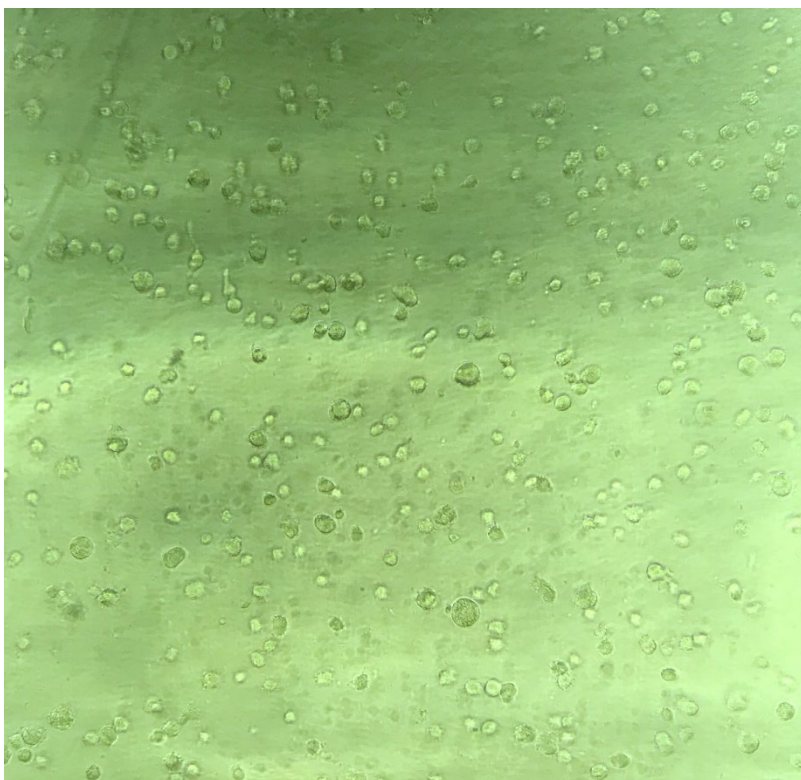

Figure 15. Optimal NPC seeding density in bottom channel.
6. Cover the Chip-Array and quickly visually inspect under a lab microscope if the density and distribution look appropriate (see Figure 15). Troubleshoot by readjusting density if not.